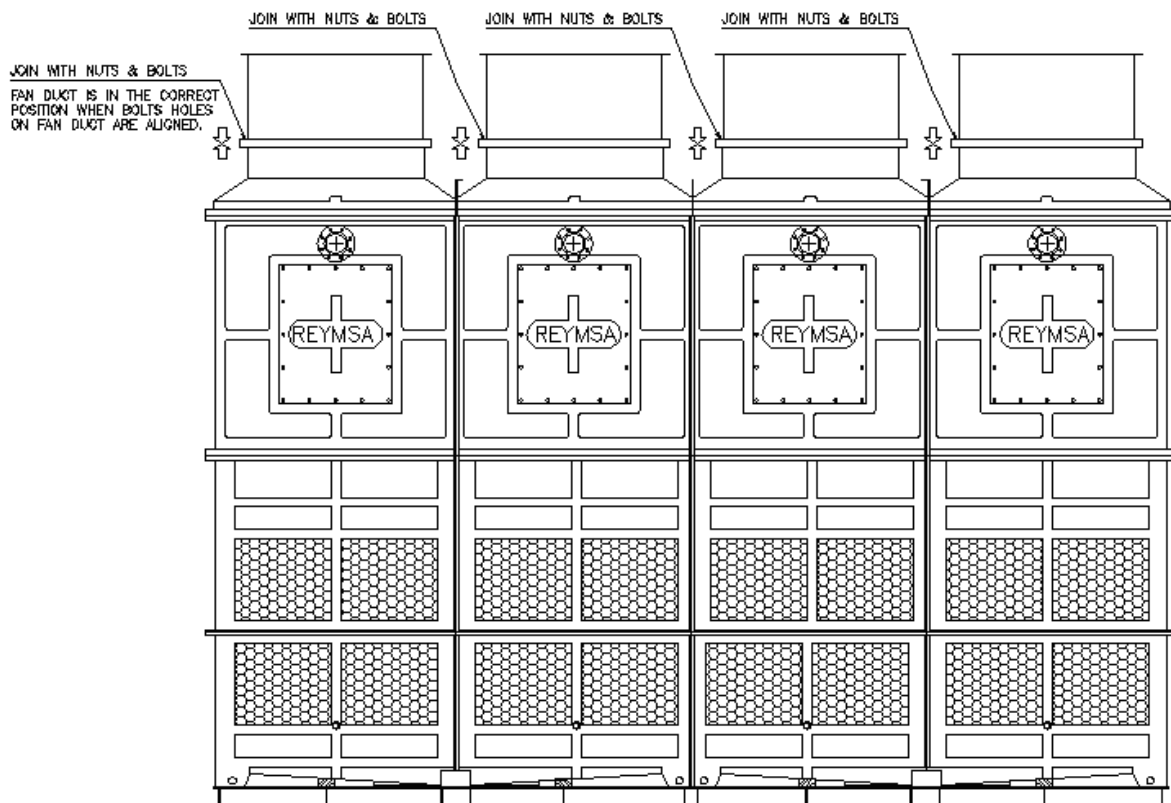

Figure A-34: Fan Sections Installation
- O. Place **Fan Duct 2**, following the same procedure as Step M. Repeat until all Fan Ducts have been installed. (See Figure A-34). Note that there are two Fan Ducts per Tower Cover Section.